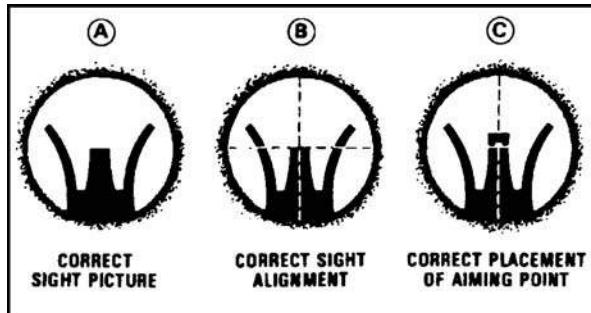

Figure 071-311-2030-2. Sight pictures
- (1) Center the top of the front sight post in the center of the rear sight (A in figure 071-311-2030-2).
- (2) Draw an imaginary horizontal line through the center of the rear aperture so that the top of the front sight post touches the line (B in figure 071-311-2030-2).